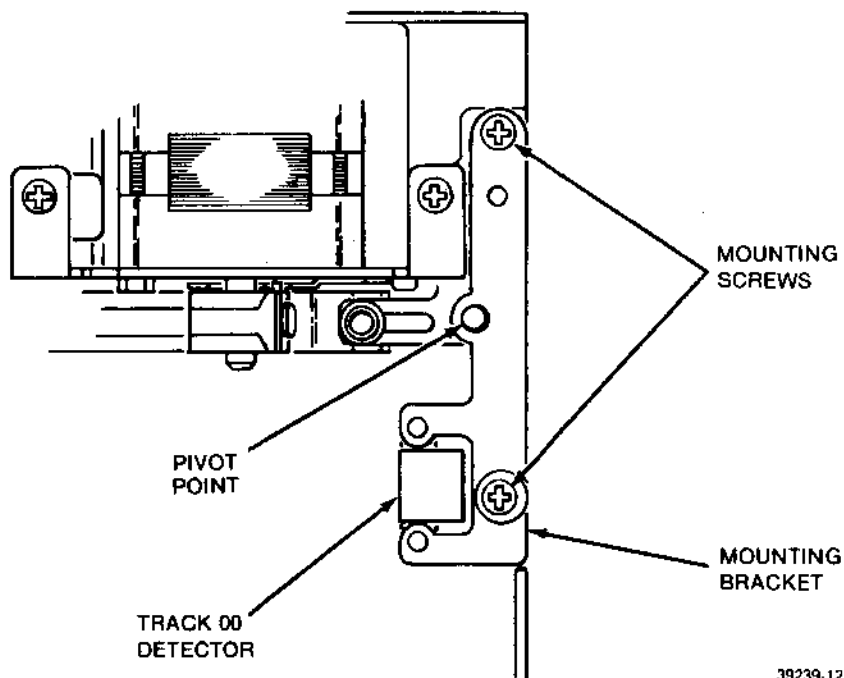

FIGURE 5-9. TRACK ZERO ADJUSTMENT
- l. Adjust eccentric until a 50% duty cycle is obtained (see figure 5-9).